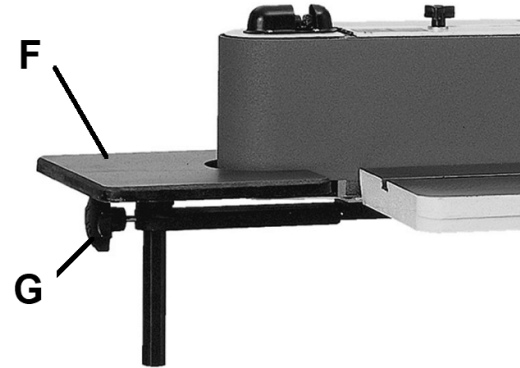

Fig 9
Mount the extension table (F, Fig 9) and clamp it on the desired working height with lock knob (G).